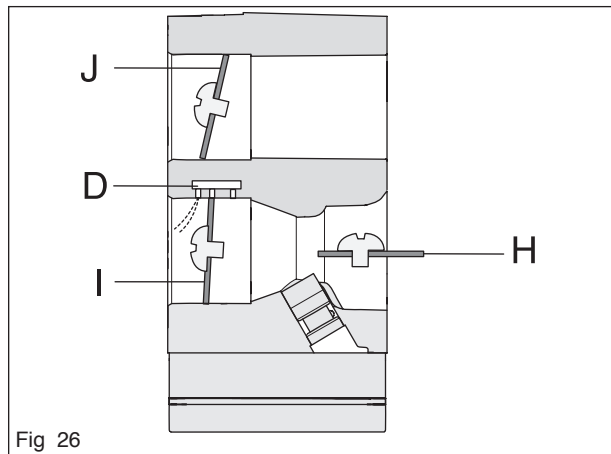

Fig 26
Air is sucked in through an aperture in the throttle valve and a small amount of fuel is supplied through the diffuser jet (D) (see figure 26).